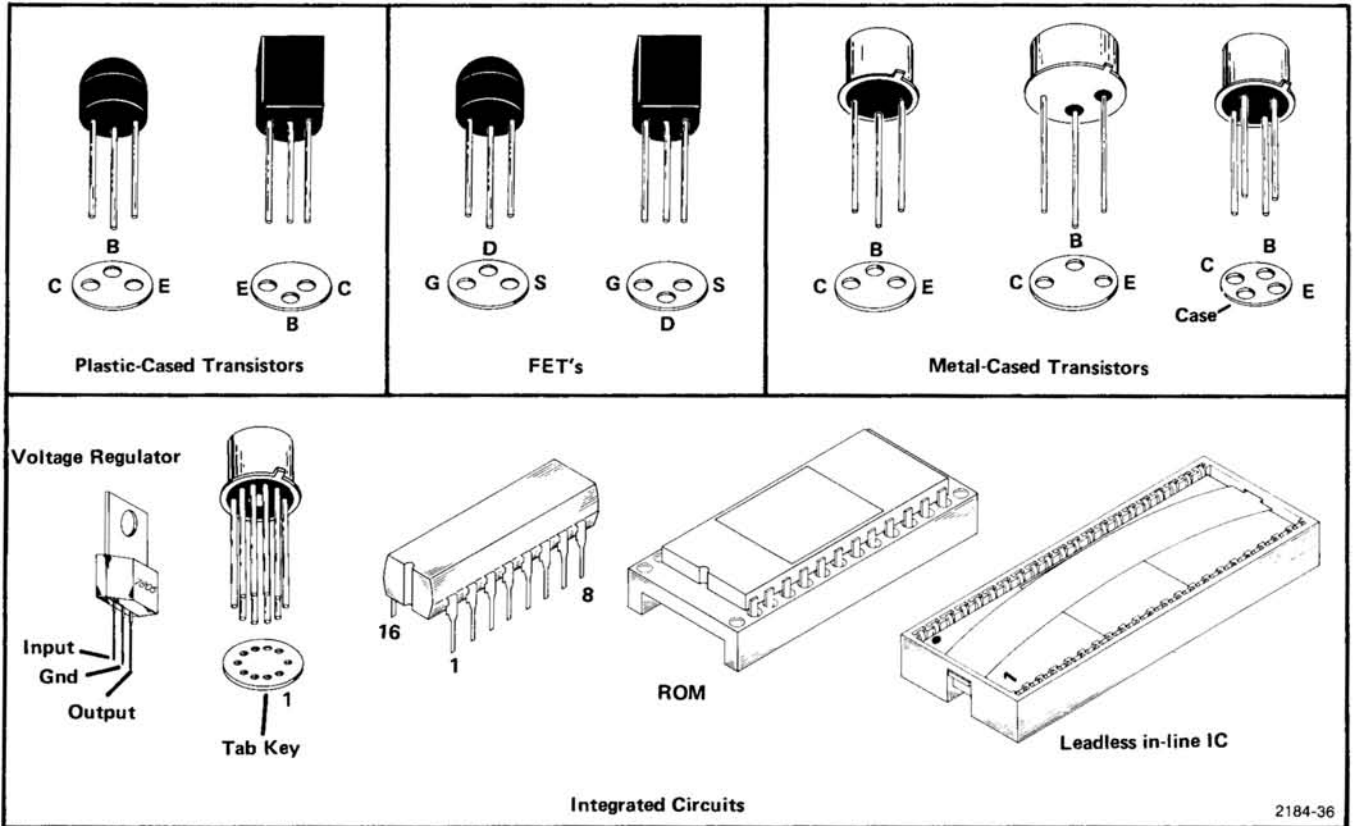

Fig. 5-4. Electrode configuration for semiconductor components.
Transistor and Integrated Circuit Electrode Configuration. Lead identification for the transistors is shown in Fig. 5-4. IC pin-out diagrams are shown, when necessary, on the back of the adjoining pullout schematic diagram.
d. Be sure the component (transistor or IC) is inserted properly in the socket (see Fig. 5-4 or the manufacturers data sheet).
Replacement semiconductors should be of the original type or a direct replacement. Fig. 5-4 shows the lead configuration of the semiconductors used in this instrument.